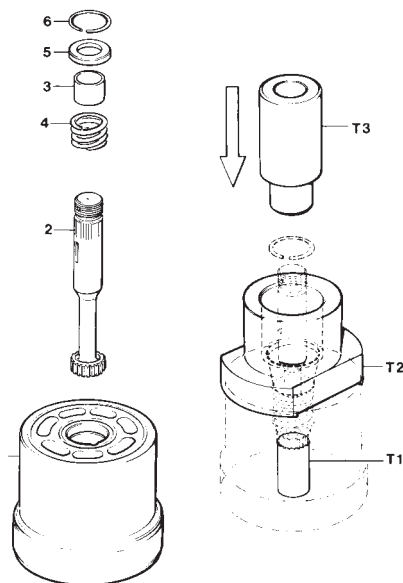

Figure 2
See figure 2. Position the barrel (1) in a press with the large end turned down and insert tool figure T-1 in the splined shaft hole in the barrel.
PARTS LIST FOR FIGURE 2